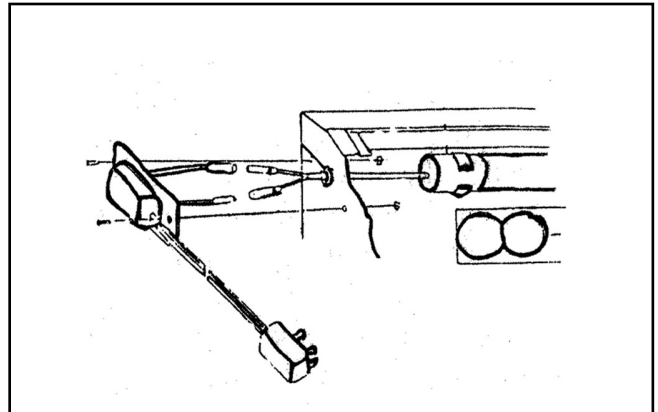

Figure 4. Electrical installation.
4. Install the lamp and wiring with the M4-0.7 x 10 screws, washers, and nuts. Use the zip-ties to lock the lamp to the two lamp supports (**Figure 4**).